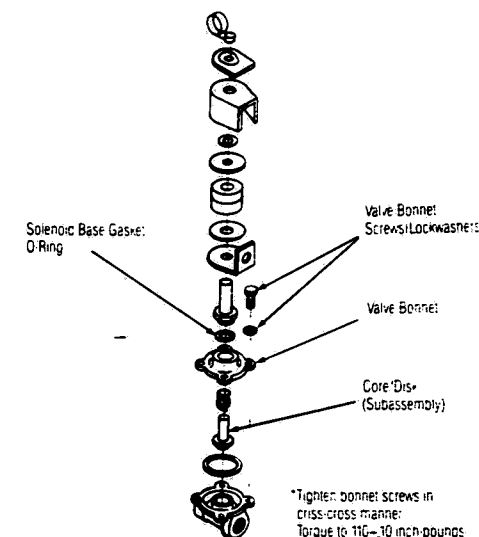

FIGURE 7-10 – ASCO Solenoid Valves
**Note:** When installing/repairing ASCO diaphragm- or piston-type valves, it will be necessary to separate solenoid base from valve bonnet to facilitate removal, repair and/or installation. When valve is reassembled, make sure no Teflon tape or pipe sealer is used between solenoid base and valve bonnet (see O-ring seal shown in Figure 7-10). When Teflon tape or pipe sealer is used it can find its way into core tube and inhibit proper travelling of core/disc. If core/disc does not seat correctly into copper ring at top inside of core tube, valve will emit an audible buzzing sound.